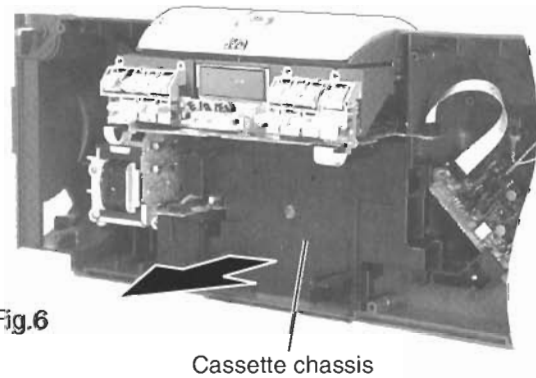

Fig.6
### ■ Removing the CD Unit Assembly (See Fig.6 to 8)
1. Remove the cassette chassis (See Fig.6).